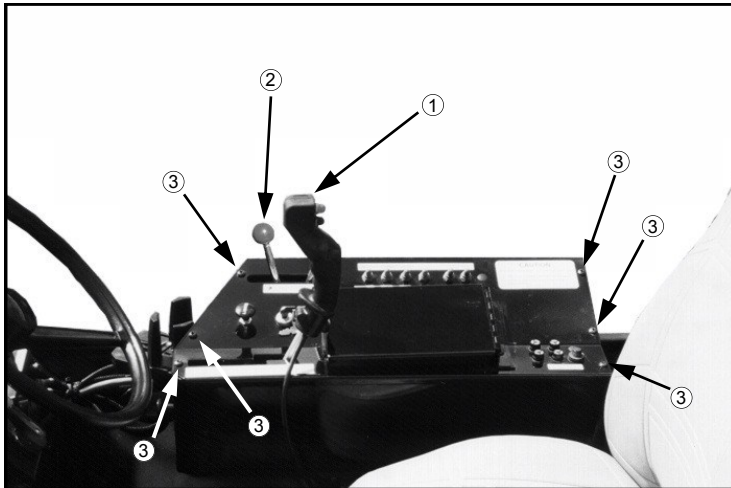

FIG 7.50
hydrostatic handle (fig 7.50, item 1), VFC lever knobs (fig. 7.50, item 2), and panel screws (fig. 7.50, item 3). The circuit breakers are located toward the rear of the console.